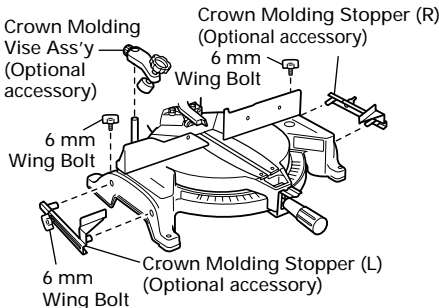

Fig. 20
- (1) Crown molding Stopper (L) and (R) (optional accessories) allow easier cuts of crown molding without tilting the saw blade. Install them in the base both-sides side to be shown in Fig. 20. After inserting tighten the 6 mm knob bolts to secure the Crown molding Stoppers.